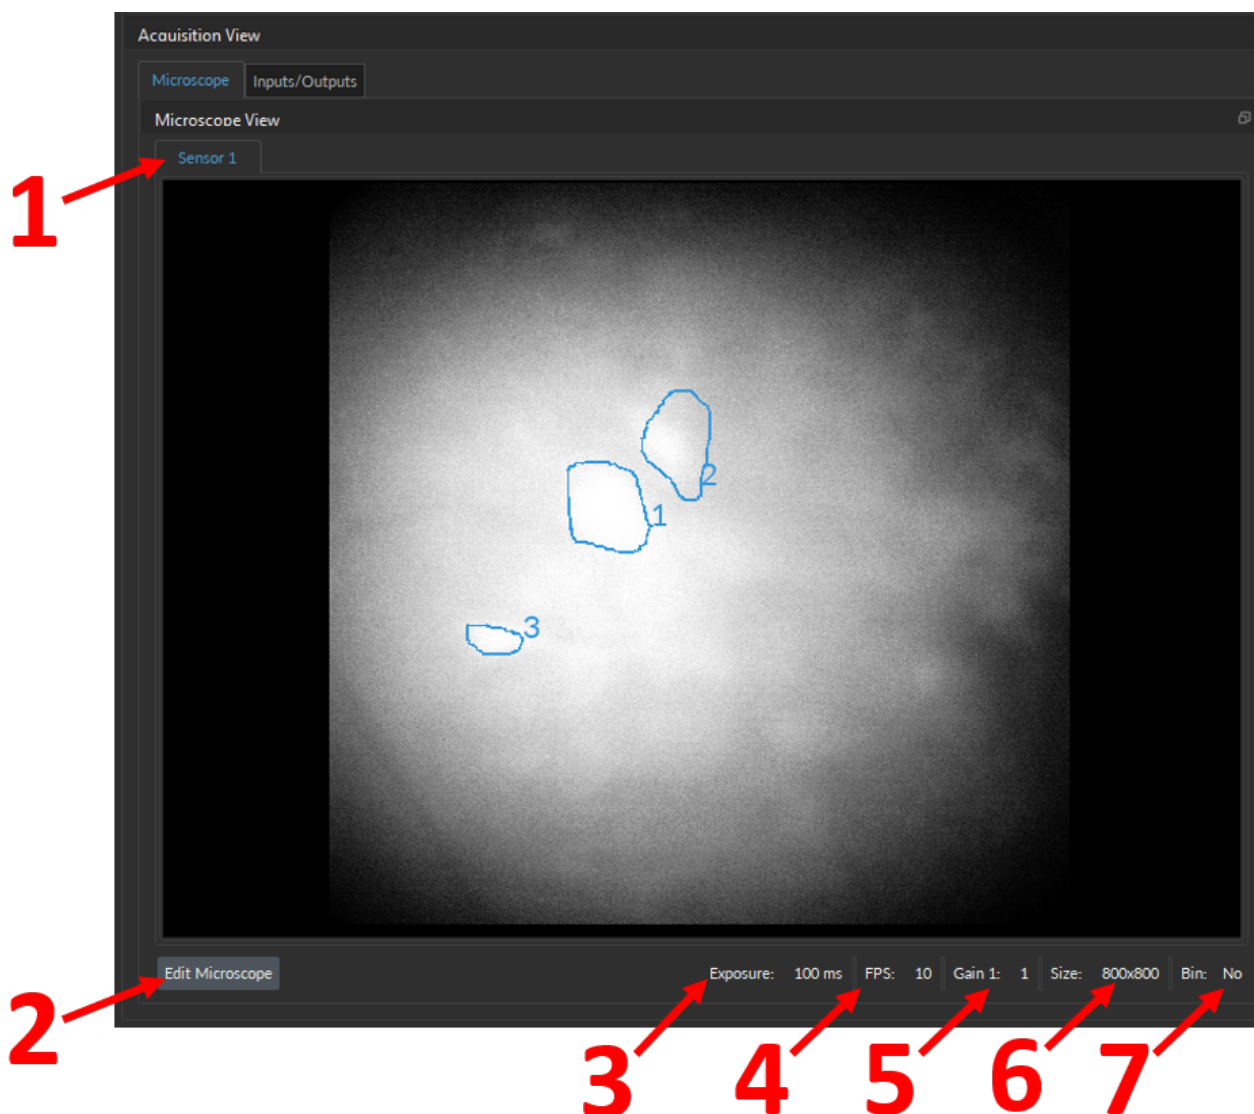

Figure 5.18: Acquisition View section
The **Microscope View** (Fig. 5.18) displays images from the microscope and allows region of interest (ROI) drawing by clicking and dragging the mouse over the image.
1. The **Sensor Tabs** (Fig. 5.18) displays the sensors available to view. For multi-sensor microscopes, changing tabs allow you to see the image available for each.
2. The **Edit Microscope** (Fig. 5.18) button opens the configuration window of the microscope (see section 5.1.1).
3. The **Exposure** (in ms) (Fig. 5.18) indicates the exposure time of the microscope sensor.
4. The **FPS** (Frames Per Second) (Fig. 5.18) indicates the number of frames per second taken by the sensor.
5. The **Gain** (Fig. 5.18) indicates the electrical gain of the sensor.
6. The **Size** (Fig. 5.18) indicates the resolution of the sensor images (in Pixels x Pixels).
7. The **Bin** (Fig. 5.18) status indicates whether or not the sensor image is being binned (yes/no).